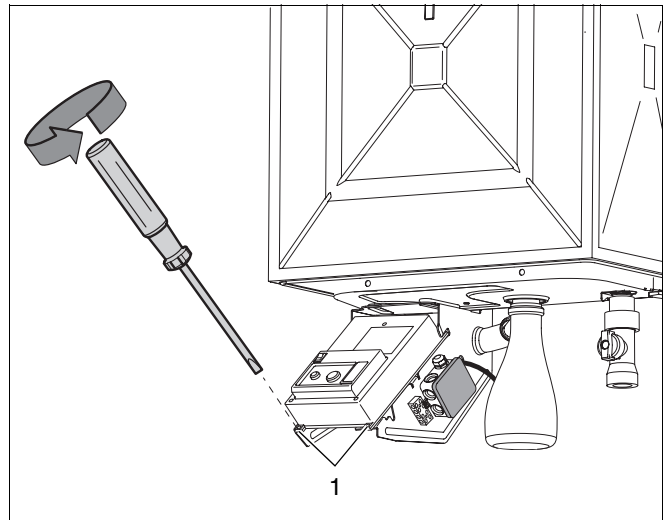

Fig. 39 Replacing the UBA
- Loosen the two screws on the UBA (fig. 39, item 1).
- Loosen the two fixing screws and carefully turn the UBA around (fig. 39, item 1, page 40).